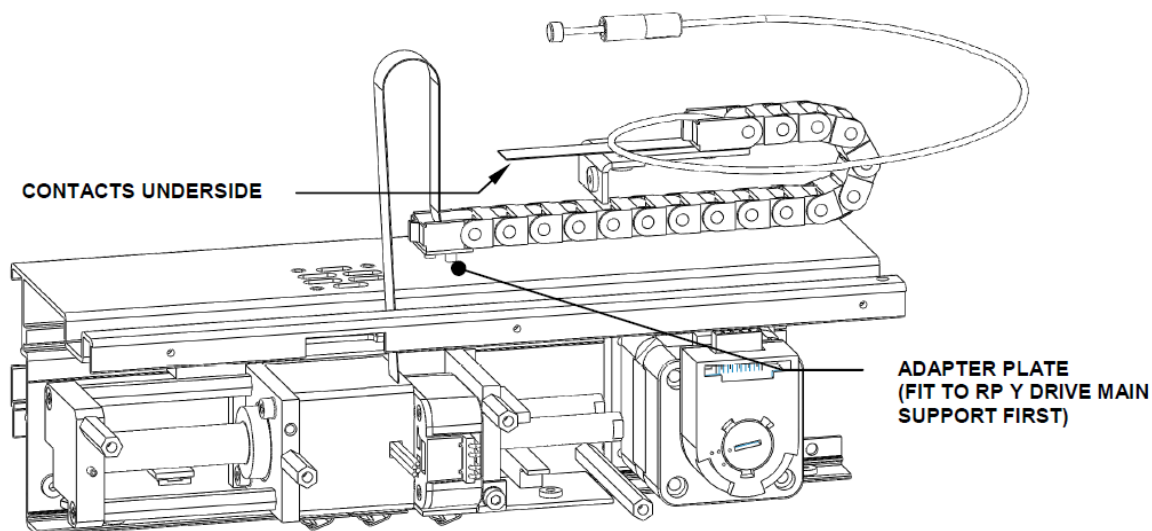

Figure P-3: Removing the Cable and Tube from the Y Drive Chain
The Y drive cable chain is connected to the Z Drive as shown in Figure P-3.
1. Remove the 18 Way Flex Cable from the Y Drive Cable Chain and pass the PTFE Tube on top of the Flexable (Figure P-3).